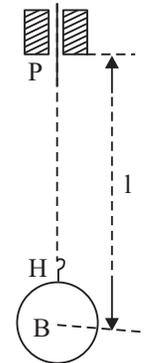

Fig. 4.2
A simple pendulum is a small heavy 'bob' B hanging by a light and inextensible string S (fig 4.1). In '*equilibrium position*' string is vertical. While oscillating, the '*amplitude of oscillation*' is the maximum angle that thread makes with the vertical (or sometimes the maximum horizontal displacement of the bob). Its *time period*  $T$ , i.e., time taken for one oscillation depends on its *length* i.e. distance from point of suspension to C.G. of bob B (fig. 4.2):
- (iii) Make a length of about 125 cm of this pendulum for the first set of readings. Measure the length from foot of the hook H to point of suspension P (fig 4.2). Add to it half the diameter of the, bob to obtain  $l$ , the length of the pendulum. Length PH must be measured **with bob suspended**, as the thread may have some elastic extension by the weight of the bob.